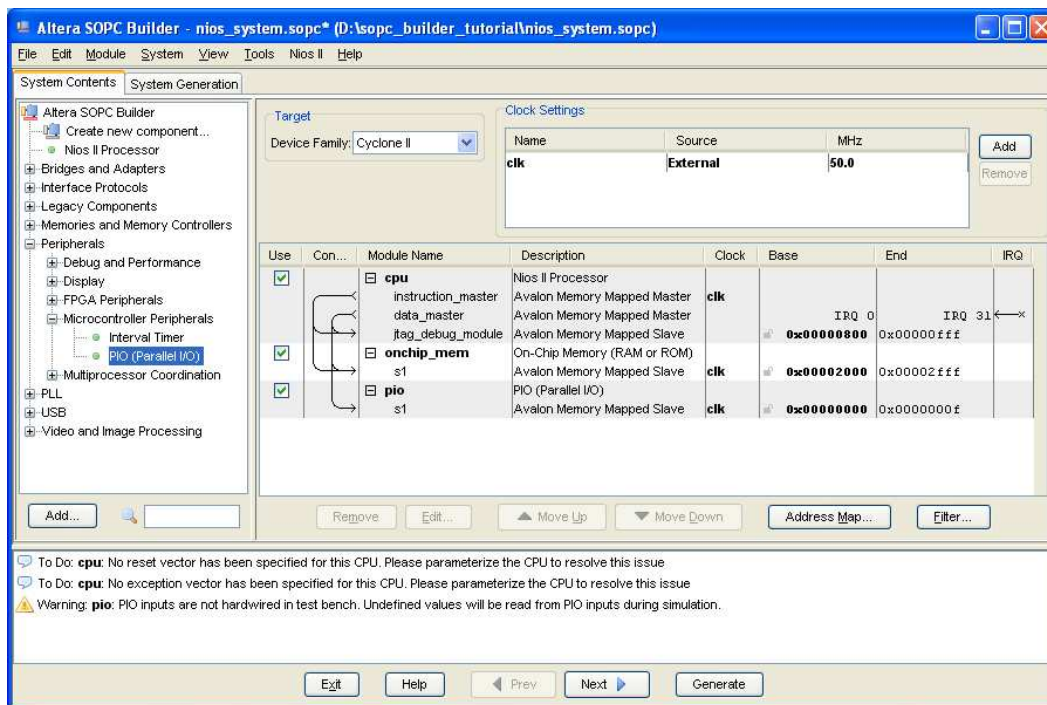

Figure 11. The parallel input interface is included.
- Click **Finish** to return to the System Contents tab as given in Figure 11